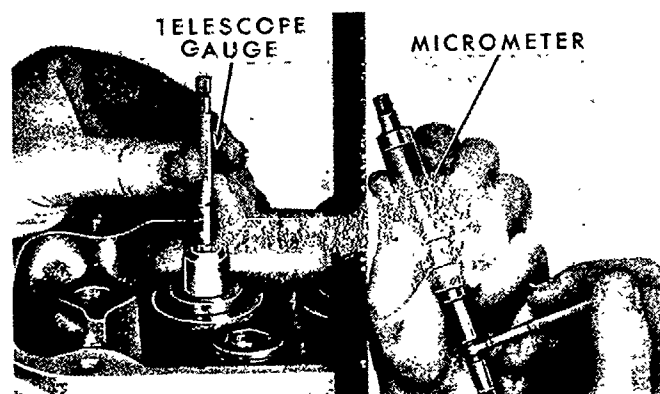

Figure 17
9. Measure the valve stem-to-guide clearance with a telescoping gauge and micrometer, as shown in Figure 17. If the valve stem-to-guide clearance is not within 0.0010-0.0045 in. (0.0254-0.114 mm.) for the intake valve and 0.0020-0.0055 in. (0.0508-0.139 mm.) for the exhaust valve, or if excessive oil consumption is